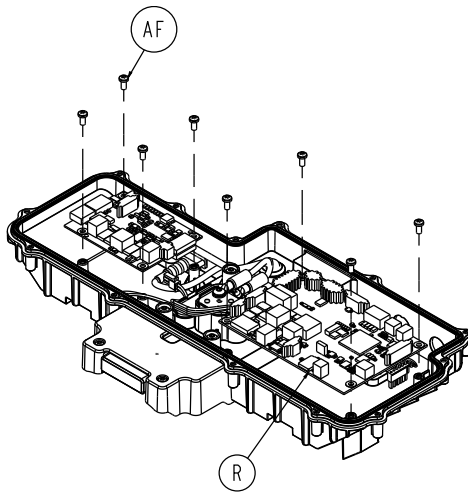

Figure 76 – Remove the FEIB board screws
11. Using a T20 Torx driver, remove the four pan head tapping screws (AF) that secure the cot FEIB board (R) to the bottom FEIB enclosure (Figure 76). Save the screws.